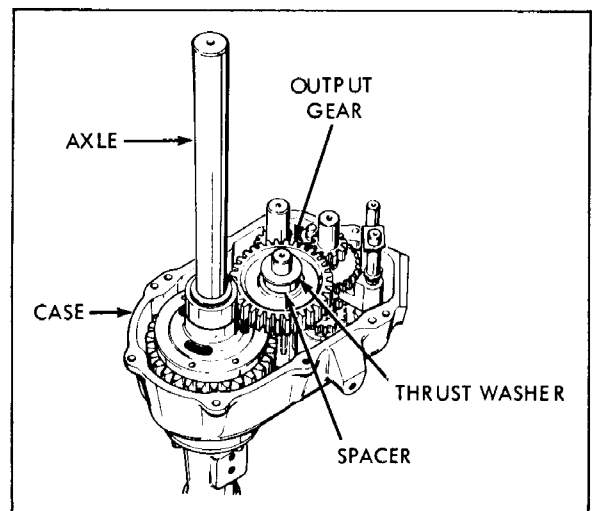

Figure 2-12
6. Install the output shaft, gear, spacer and thrust washer. (Fig. 2-12)